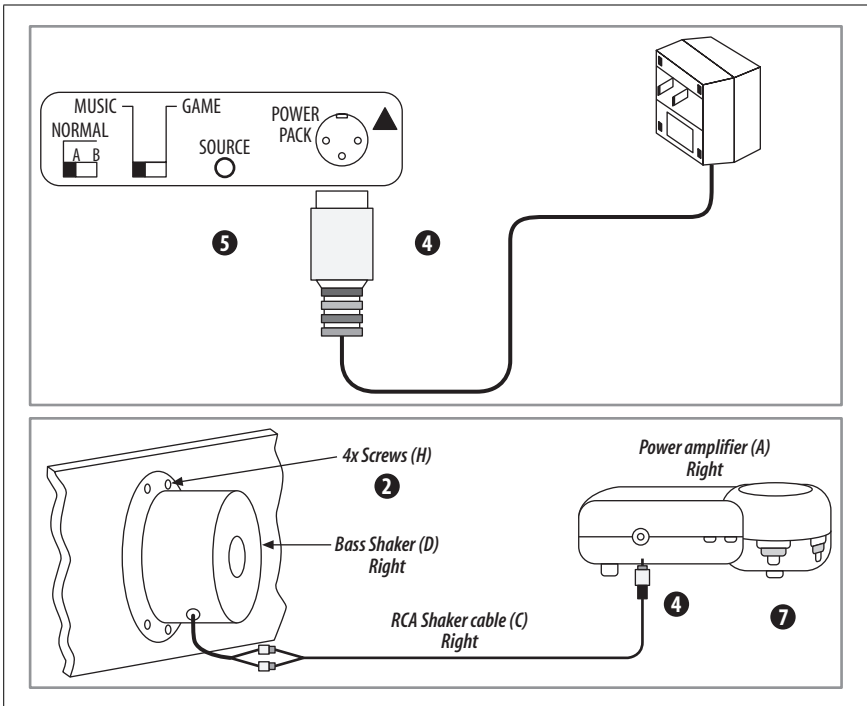

Figure 5-6. Attaching the amplifier
3. Attach the RCA cable lugs (C) to the shakers (D) and lead the other end of the cables out of the back of the couch before reclosing the cover fabric with new staples (see Figure 5-6).
4. Plug the RCA connector (C) into the OUT jack of the amplifier (A) and the transformer (B) connector into the POWER PACK jack of the amplifier (A), as shown in Figure 5-6.